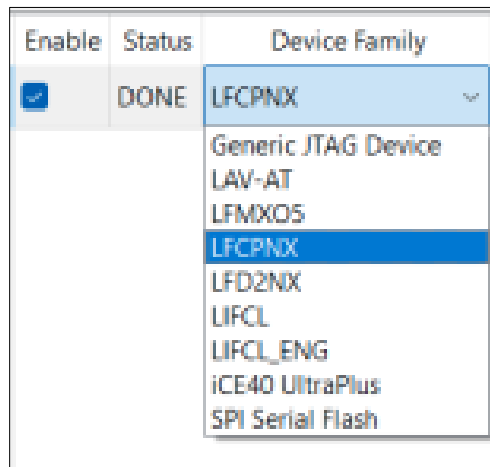

Figure 4.4. Radiant Programmer – Device Selection
2. Select **LFCPNX** for Device Family and **LFCPNX-100** for Device as shown in Figure 4.4.